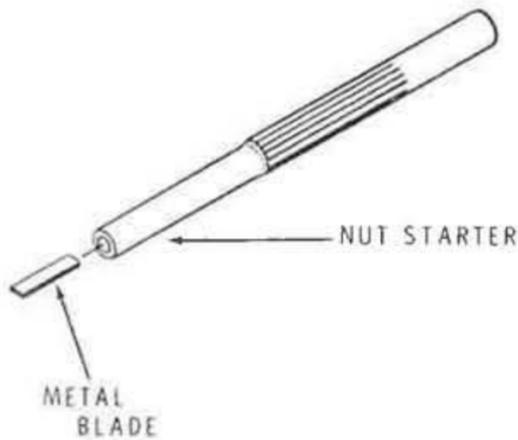

Figure 1
- ( ) Prepare an alignment tool in the following manner: Insert the 1/8" x 3/4" alignment tool blade into the small end of the nut starter as shown in Figure 1. Leave 1/4" exposed.